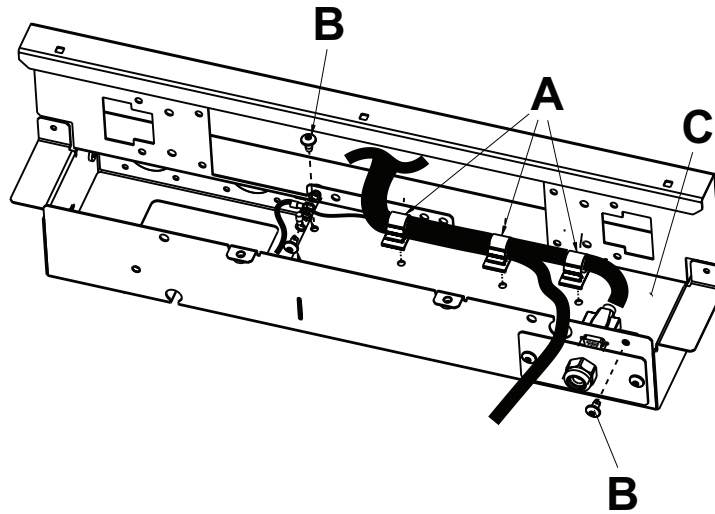

Figure 23 – Remove screws, wire holders, and cover
7. Using a small slotted screwdriver, unclip the three wire holders (A) and remove the cables (Figure 23).
8. Using a T27 Torx driver, remove the two screws (B) that secure the AC crossover board cover to the litter frame. Remove the cover (C).